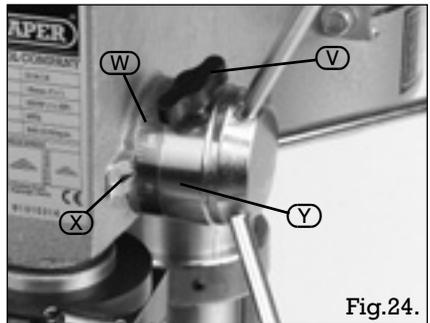

Fig.24.
Where holes are to be drilled to exactly the same depth, a depth stop is provided in the pinion shaft housing (Y) Fig.24 and is used as follows:
1. Loosen lock handle (V) Fig. 24 and rotate housing (Y) until the pointer (X) lines up with the depth you wish to drill on the scale (W). Then tighten lock handle (V).